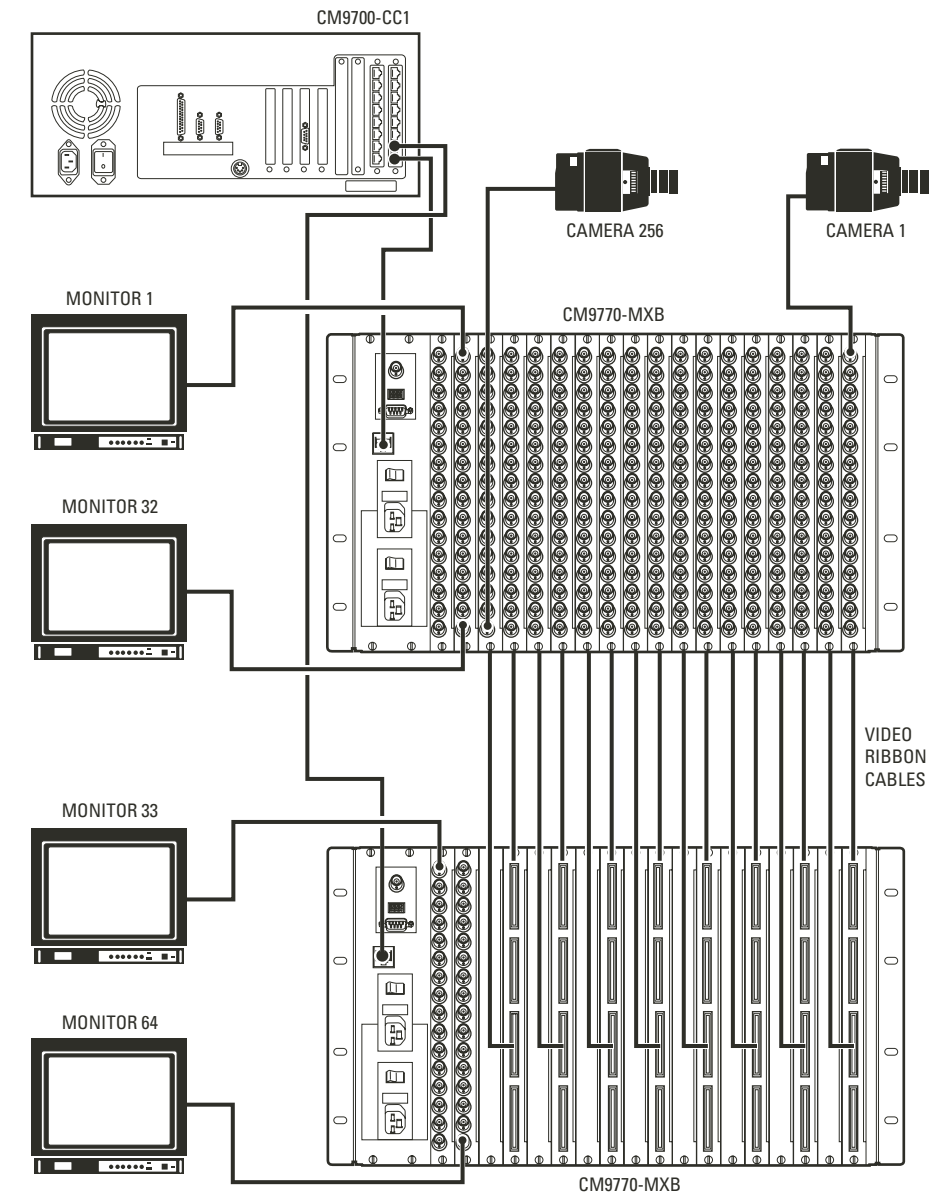

Figure 15. Sample Single-Node System with Downframing
Figure 13 and Figure 14 illustrate sample sideframing configurations. Figure 15 illustrates a sample downframing configuration.
- Downframing—To expand the matrix video outputs beyond 32, you can loop the video from the first CM9770-MXB to subsequent CM9770-MXB units for an additional 32 monitor outputs on each matrix bay. Refer to Figure 15.